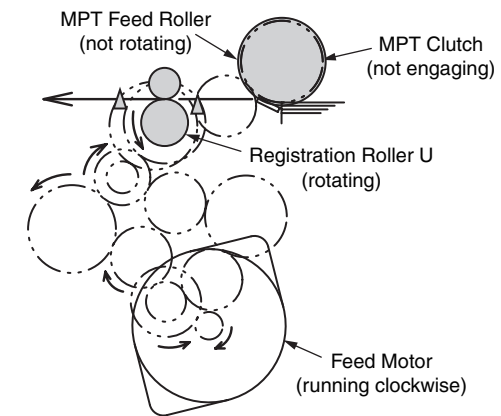

Figure 2-4
3. As figure 2-4 shows, the feed motor runs clockwise and the registration roller U feeds the paper (the registration roller U rotates when the feed motor runs clockwise).